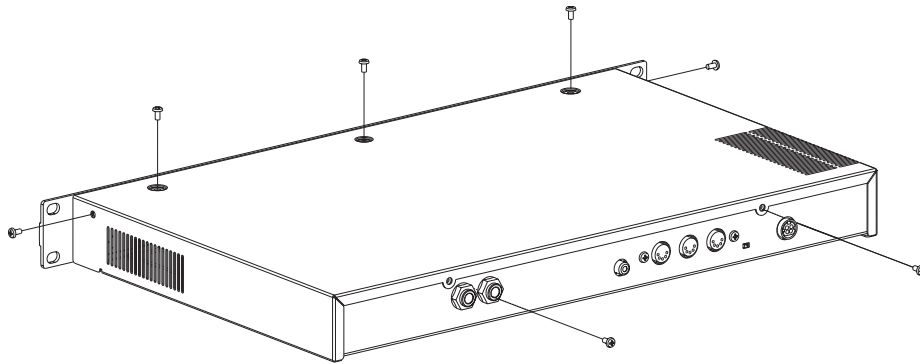

Figure 3-1 PC2R top cover
The top cover is secured to the PC2R with seven screws: three on the top, one on each side, and two on the rear. See Figure 3-1.
2. Install the seven screws that secure the top cover. See Figure 3-1.